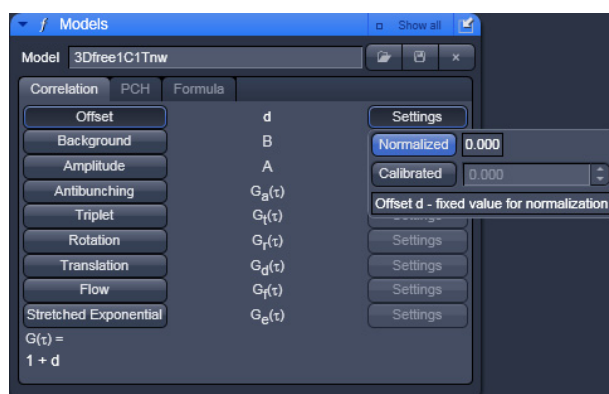

Fig. 59 Offset Settings panel
- You can set the offset (Fig. 59) to 0 by pressing the **Normalized** button.